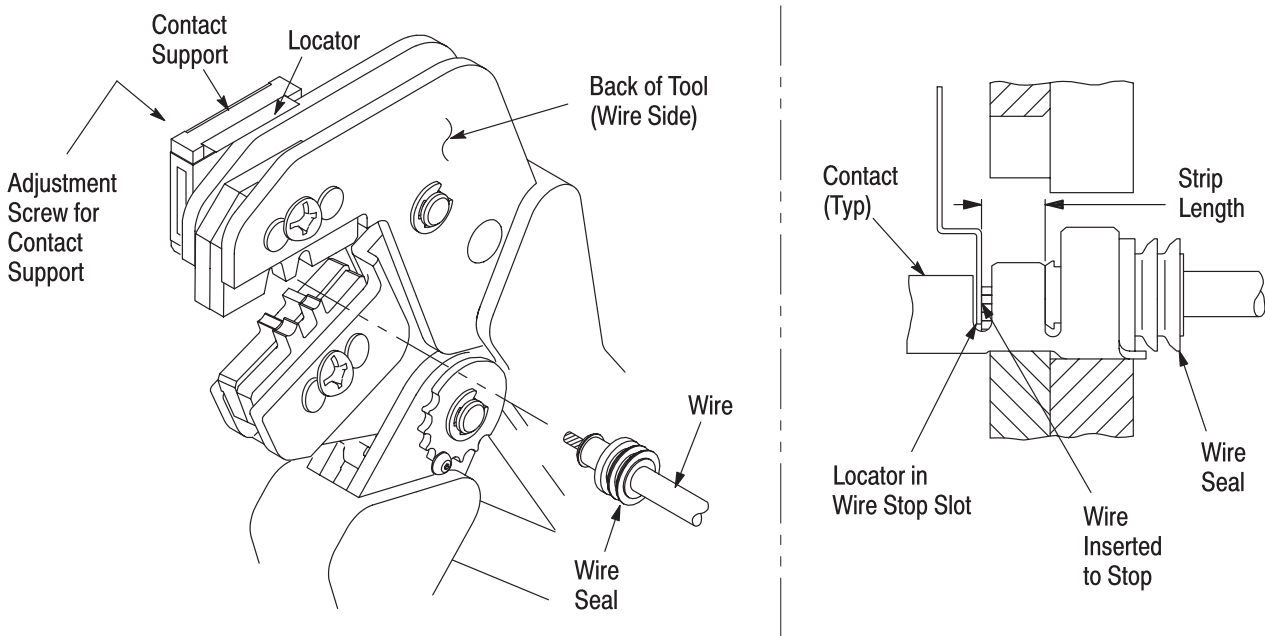

Figure 3
**4. CONTACT SUPPORT ADJUSTMENT** (Figure 3)
Refer to the table in Figure 1 and select wire of the specified size and insulation diameter. Strip the wire to the length indicated in Figure 1, taking care not to nick or cut wire strands. Select an applicable contact and identify the appropriate crimp section according to the wire size markings on the tool. Refer to Figure 3 and proceed as follows:
- Position the contact so that the mating end of the contact is on the locator side of the tool, and so that the open “U” of the wire and insulation barrels must face the top of the tool. Place the contact up into the nest so that the movable locator drops into the slot in the contact. Refer to Figure 3. Butt the front end of the wire barrel against the movable locator.
5. Insert stripped wire, with wire seal, into contact insulation and wire barrels until it is butted against the wire stop, as shown in Figure 3.
**NOTE** The crimped contact may stick in the crimping area, but the contact can be easily removed by pushing downward on the top of the locator (see Figure 3).